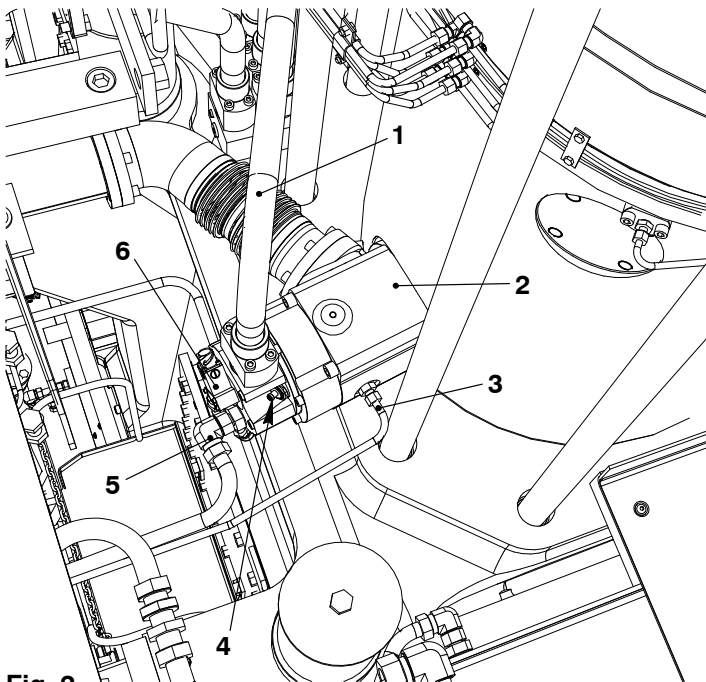

Fig. 2
- 1) Put an oil tray below the GAV (2, Fig. 2).